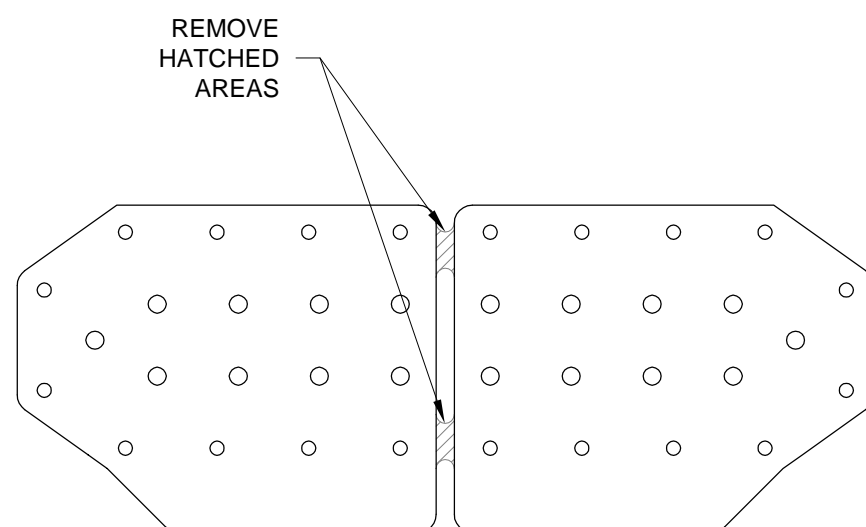

FIGURE 3: F-01410B BULKHEAD DOUBLERS
Step 3: Separate the F-01410B-L & -R Bulkhead Doublers by removing the hatched areas as shown in Figure 3.